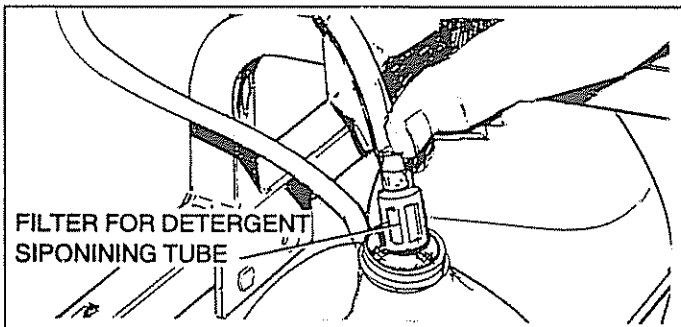

FIG. 15
- Place small filter of the clear, detergent siphoning tube into the detergent container (Fig. 15).